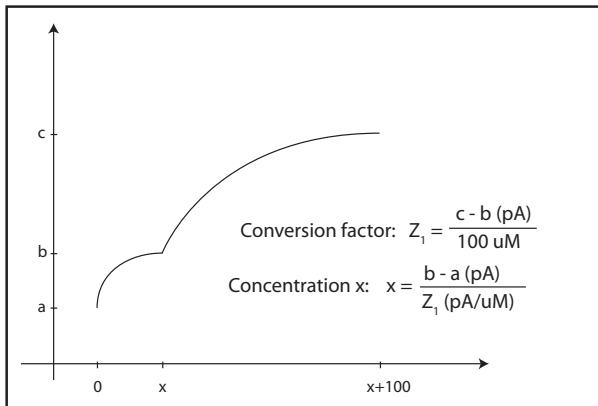

Figure 5. Example of calibration procedure calculations
- d. The background  $\text{NO}_x^-$  concentration in the calibration solution can be determined from the difference in signal obtained for zero  $\text{NO}_x^-$  in the solution, multiplied by the conversion factor calculated from the calibration procedure (see Fig. 5).